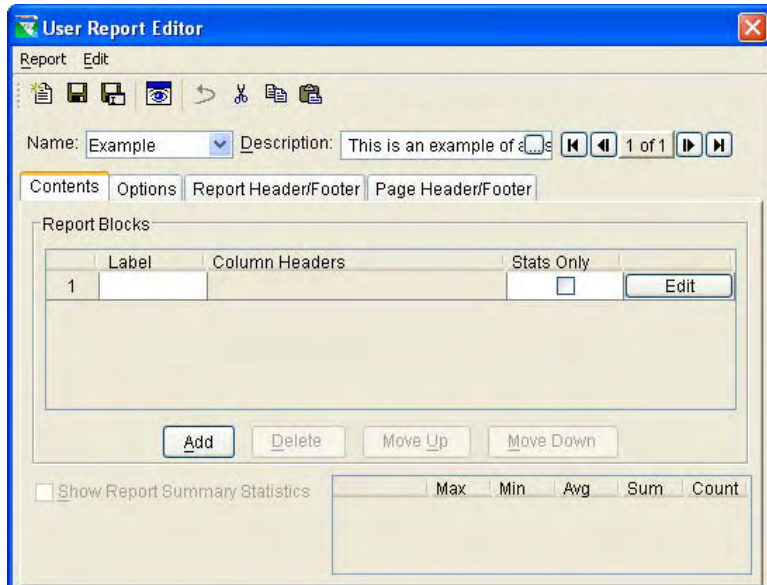

Figure 14.41 User Report Editor – After Creating a New Report Template
3. After creating a new report template (Figure 14.41), you will notice four tabs in the **User Report Editor**: **Contents**, **Options**, **Report Header/Footer**, and **Page Header/Footer**.
Once all edits have been made to the column, select **OK** to save and return to the **Report Content Selection** dialog box (previously shown in Figure 14.43), or select **Cancel**, which will return you to the **Report Content Selection** dialog box and ignore all column edits you just made. In the **Report Content Selection** dialog box, select **OK** to save all edits and return to the **User Report Editor** (previously shown in Figure 14.41). Selecting **Cancel** will return you to the **User Report Editor**, but will not save any edits you made to the report block.